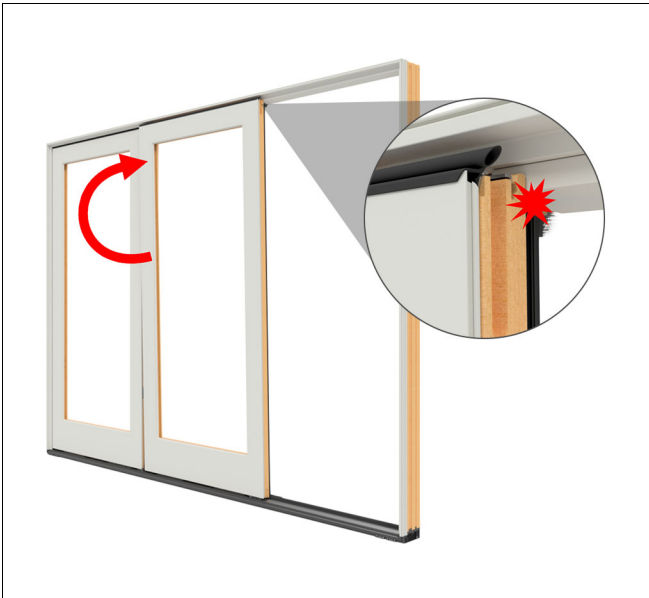
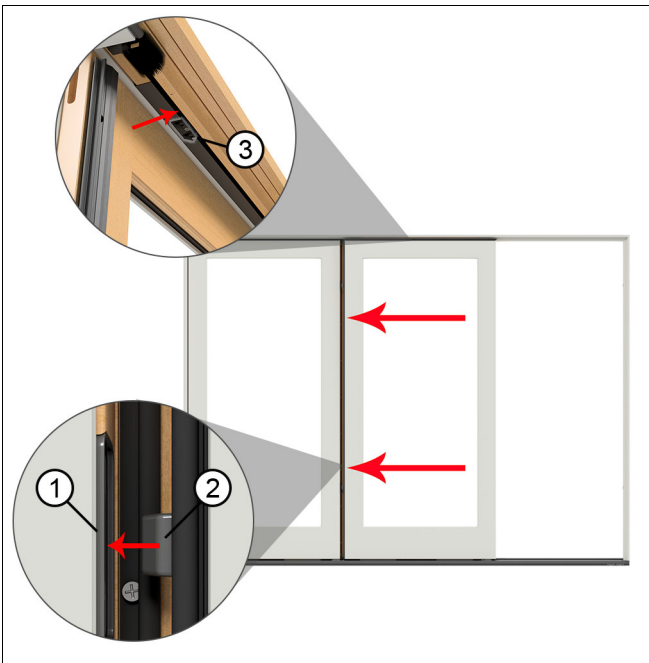

Figure 58
Figure 59
12. Set the stationary panel (with interlock) onto the sill stationary block. The block corresponds to a groove in the bottom of the panel. Tip the panel in until it hits the head jamb parting stop. Slide the panel over as the alignment bolts engage in the receivers from the first panel. See Figure 58 and Figure 59.